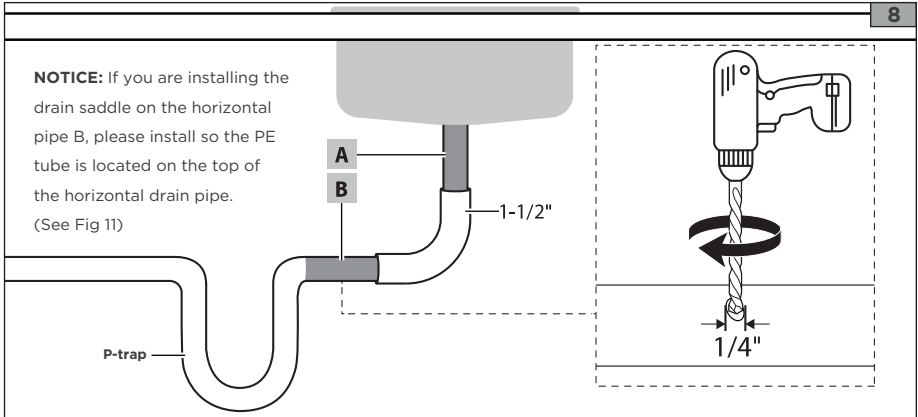

Figure 7
9. After you have inserted the yellow PE tube into the connector, insert the PE Tube Lock Clips into the quick connector end. See Figure 7 for order of installation.